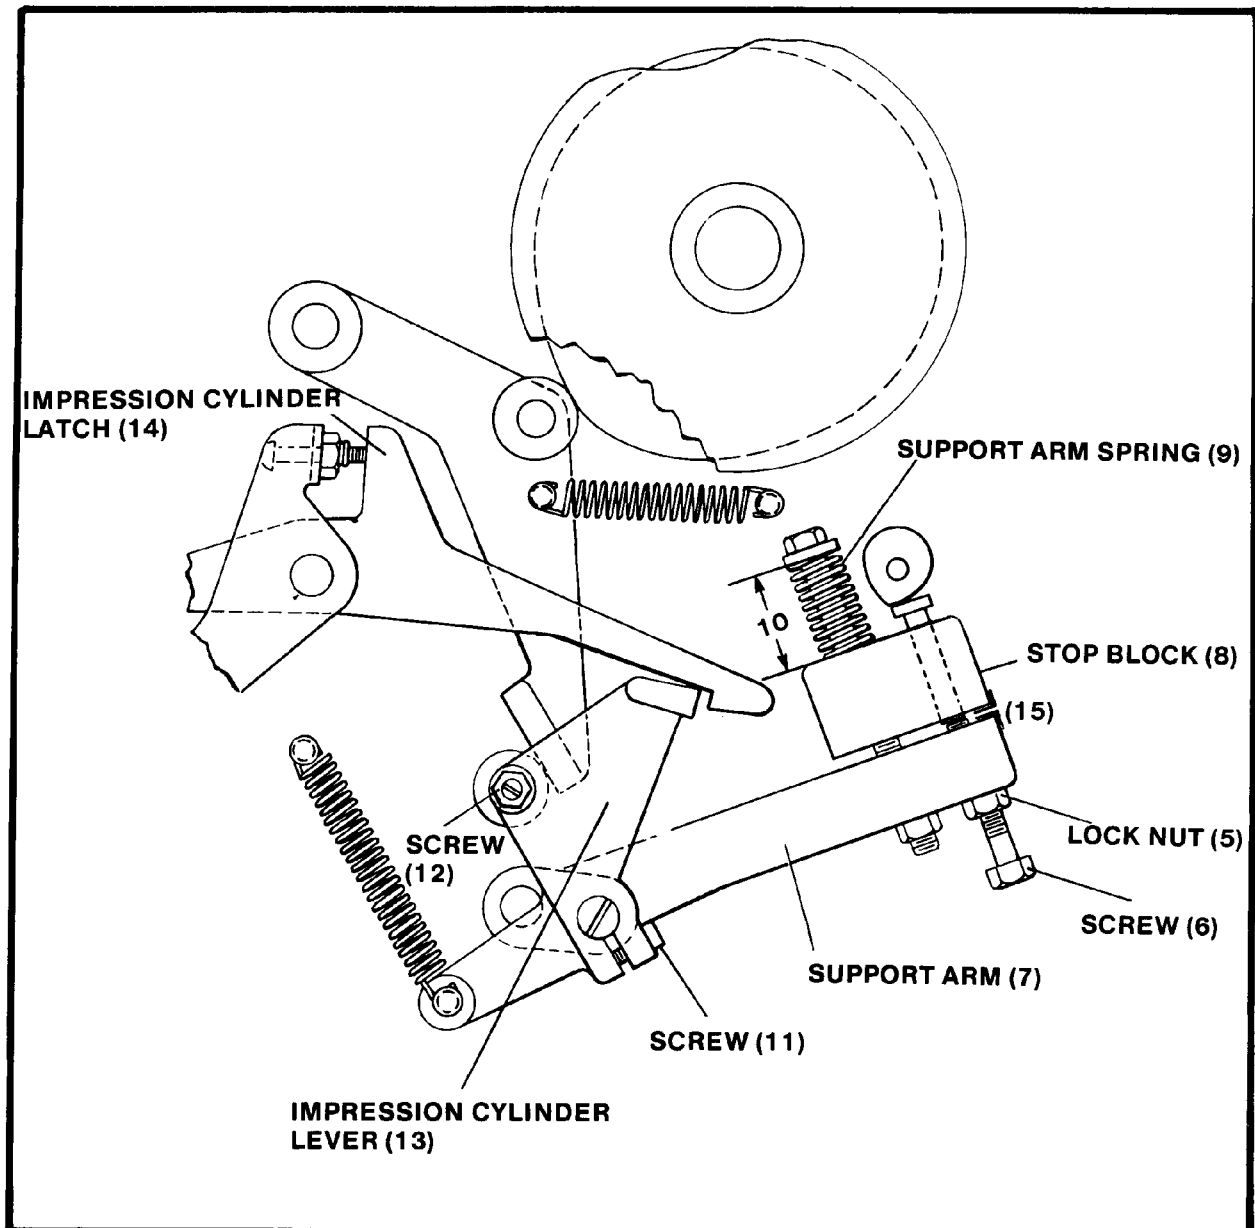

Figure 26 - Impression Cylinder and Latch Assembly
6. Loosen locknuts (5) on both support arms and turn screws (6) to preset the support arms (7) to a distance of $25/32" + 1/64"$ between the underside of the stop blocks (8) and the machined side of the support arms (see Figure 26).
7. Finger tighten locknuts (5).
8. Adjust the cylinder support arm springs (9) to a length (10) of $1-31/64"$.
The truck of the forwarding roller lifting shaft must remain on the impression cylinder cam. Verify and reposition, if necessary. See Figures 26 and 27 for referenced parts.